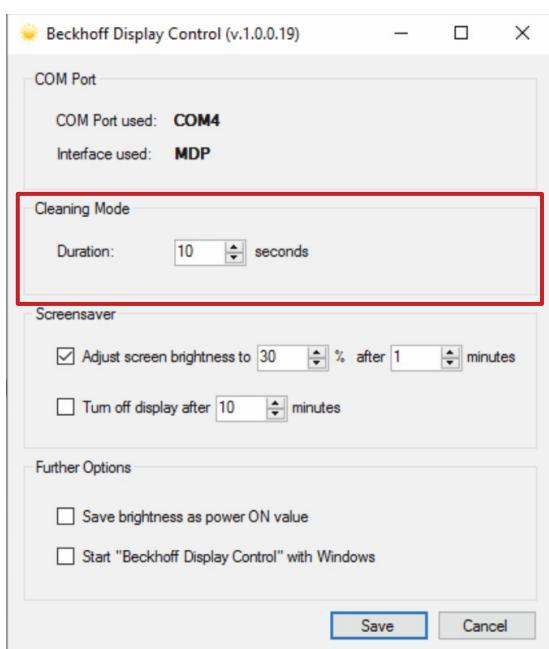

Fig. 38: CP32xx-1600_configuration "Cleaning Mode"
3. Select the "Cleaning Mode" (see Fig. 38).